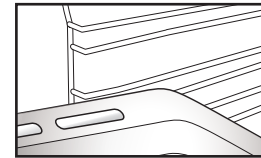

Fig. 2
2. Other accessories, such as the drip tray and baking tray, are inserted in the same way as the wire shelf (Fig. 2).